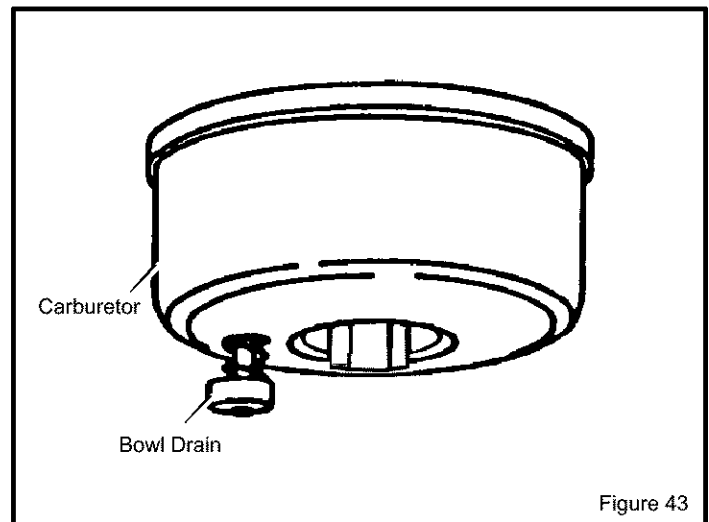

Figure 43
1. To remove gasoline, run engine until tank is empty and engine stops. Then drain remaining gasoline from carburetor by pressing upward on bowl drain located on the bottom of carburetor (see Figure 43).